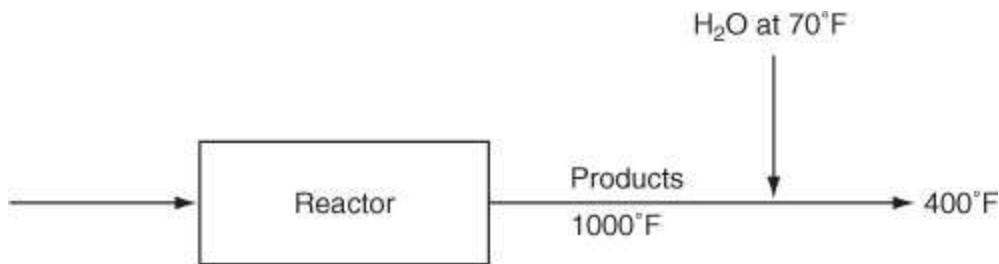

Figure P9.3.20
**9.3.20. Hot reaction products (assume they have the same properties as air) at 1000°F leave a reactor. In order to prevent further reaction, the process is designed to reduce the temperature of the products to 400°F by immediately spraying liquid water into the gas stream. Refer to Figure P9.3.20.